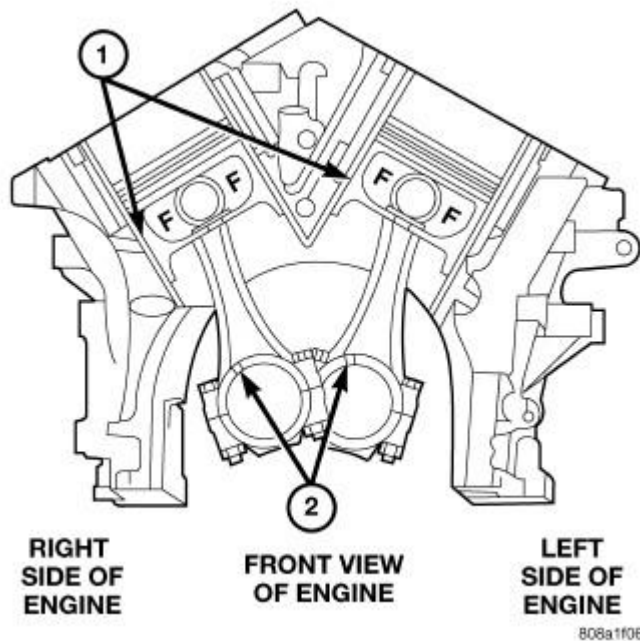

Fig. 108: Piston And Connecting Rod Orientation
6. The pistons are marked on the piston pin bore surface with an raised "F" indicating installation position. This mark must be pointing toward the front of engine on both cylinder banks. The connecting rod oil slinger slot (2) faces the front of the engine. Refer to **Fig. 108**.